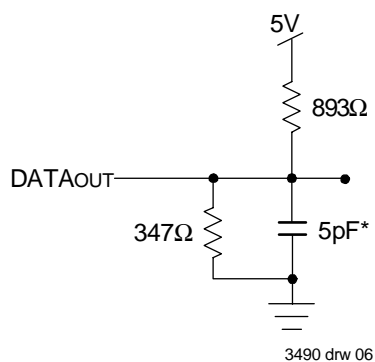

Figure 2. Output Test Load
1. Transition is measured 0mV from Low or High impedance voltage with the Output Test Load (Figure 2).
1. Transition is measured $\pm 200\text{mV}$ from Low or High-impedance voltage with the Output Test Load (Figure 2).
- Transition is measured 0mV from Low or High-impedance voltage with the Output Test Load (Figure 2).